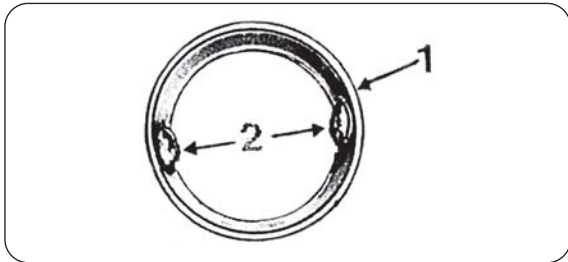

Fig. 11
To remove valve seat inserts, first weld two opposite lugs (2) Fig. 11 to provide puller grip.